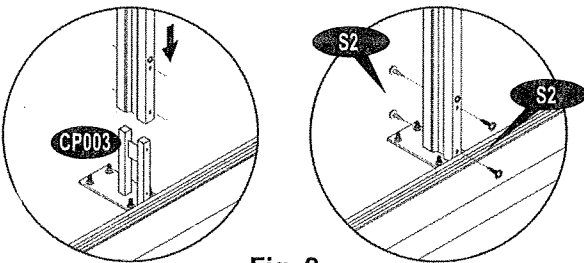

Fig. 2
2. Place assembled center structure to the column support footings (CP003) and secure with (S2) screws. See fig. 2.